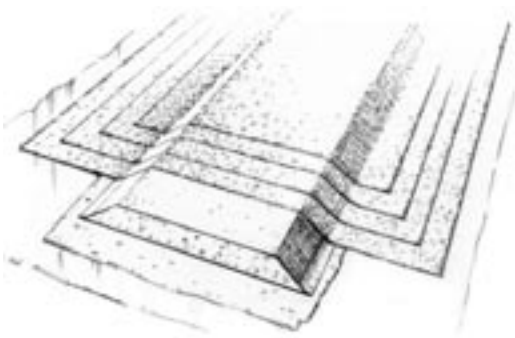

Figure 3-6 End-grained balsa or high-density foam core material is useful for reinforcing large panel areas.
3. Prepare the core material and fabric. Cut the core material to size. Round the corners and bevel the edges of the core material to reduce stress concentrations. Cut four or five pieces of glass cloth, each piece 25mm to 50mm shorter on each side than the previous one. The smallest piece of fabric should overlap the core material by 50mm on each side (*Figure 3-6*).